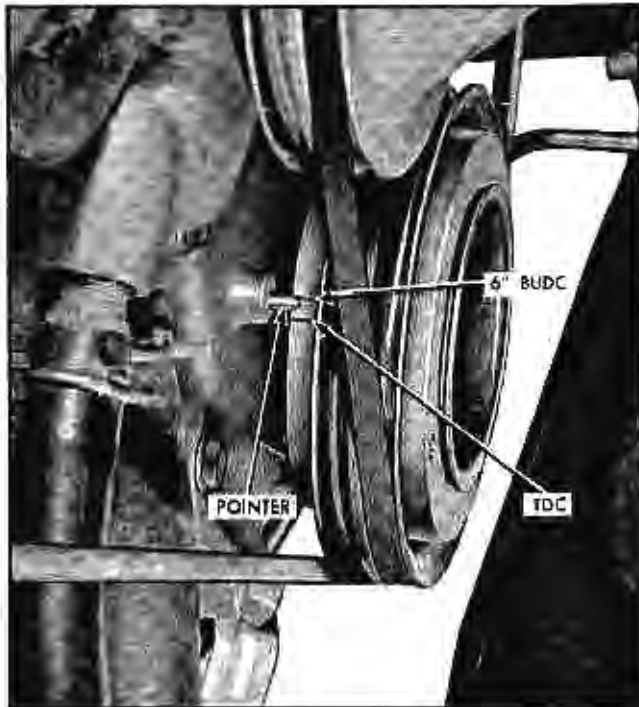

Fig. 11-62 Timing Marks and Pointer
1. Check to see that engine is at firing position for No. 1 cylinder (No. 1 piston at top of compression stroke) and timing mark on harmonic balancer is indexed with pointer (Fig. 11-62).